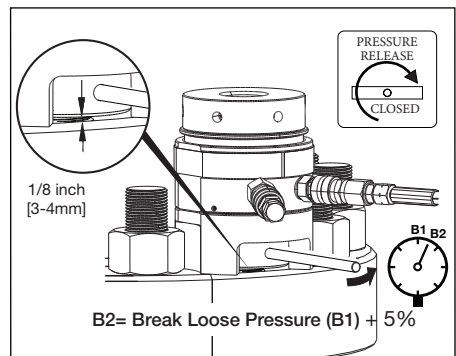

FIGURE 18, TURNING UP THE NUT
6. While holding the pressure constant, turn up (loosen) the nut at the first tensioner, so that there is approximately a 1/8 inch [3-4 mm] gap between the nut and the joint surface. See Figure 18.